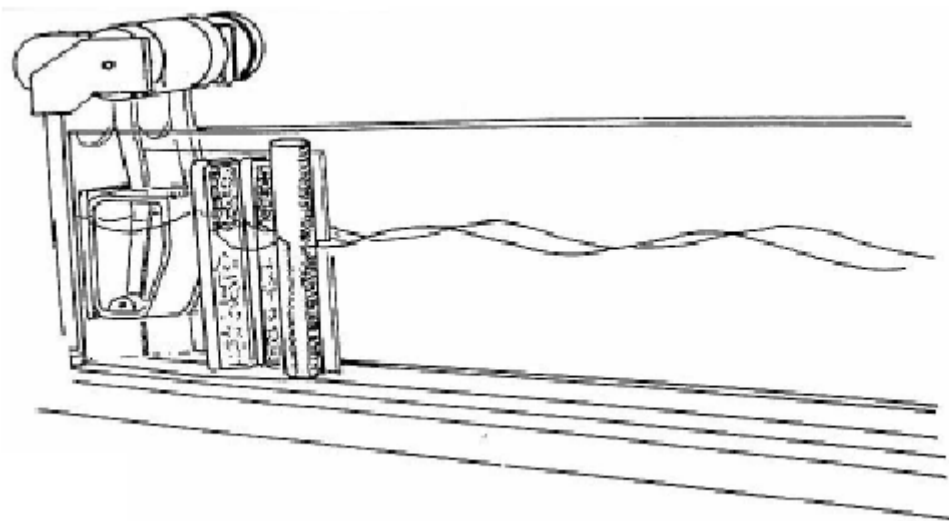

Fig. 3 Same-phase overlapping of waves
- Determine the amplitude of the wave after it enters the I-channel (fig. 3).